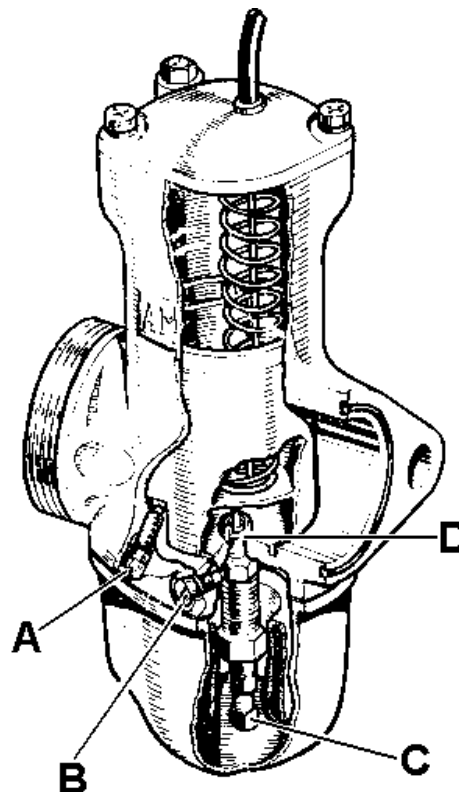

FIG. C2.
Figure C2 is a sectioned diagram of the concentric carburettor body, showing the throttle adjusting screw (A), and the pilot air adjusting screw (B).